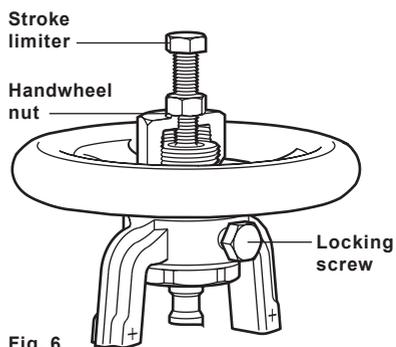

Fig. 6
- 5.4** GAV-T valves are fitted with a throttling valve plug to allow close control when opening the valve. The number of turns open will affect the flowrate through the valve. Once correct flowrate is obtained ensure the locking screw and stroke limiter (see Fig. 6) are tightened. This will minimise any vibration. The effect of valve opening for each valve size can be seen in the chart, opposite.